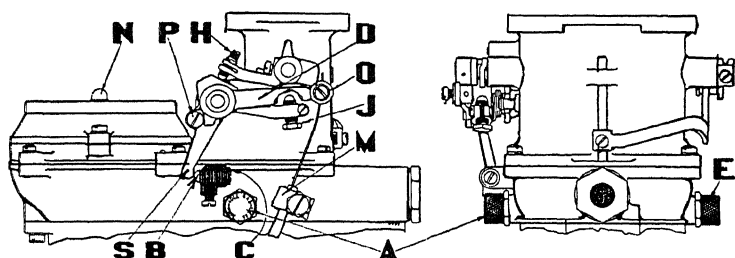

Fig. 133. Service Drawing of Schebler Model "S" Duplex Carburetor
**Carburetor Adjustments.** *Idle Adjustment.* The duplex Model "S" is provided with two idle adjustments, shown at *A* and *E* in Fig. 133. Have the engine warm before making any adjustments. Both adjustments *A* and *E* turn to the right in order to make the mixture lean and to the left or counterclockwise to enrich the mixture. The duplex carburetor has two throttle openings into the